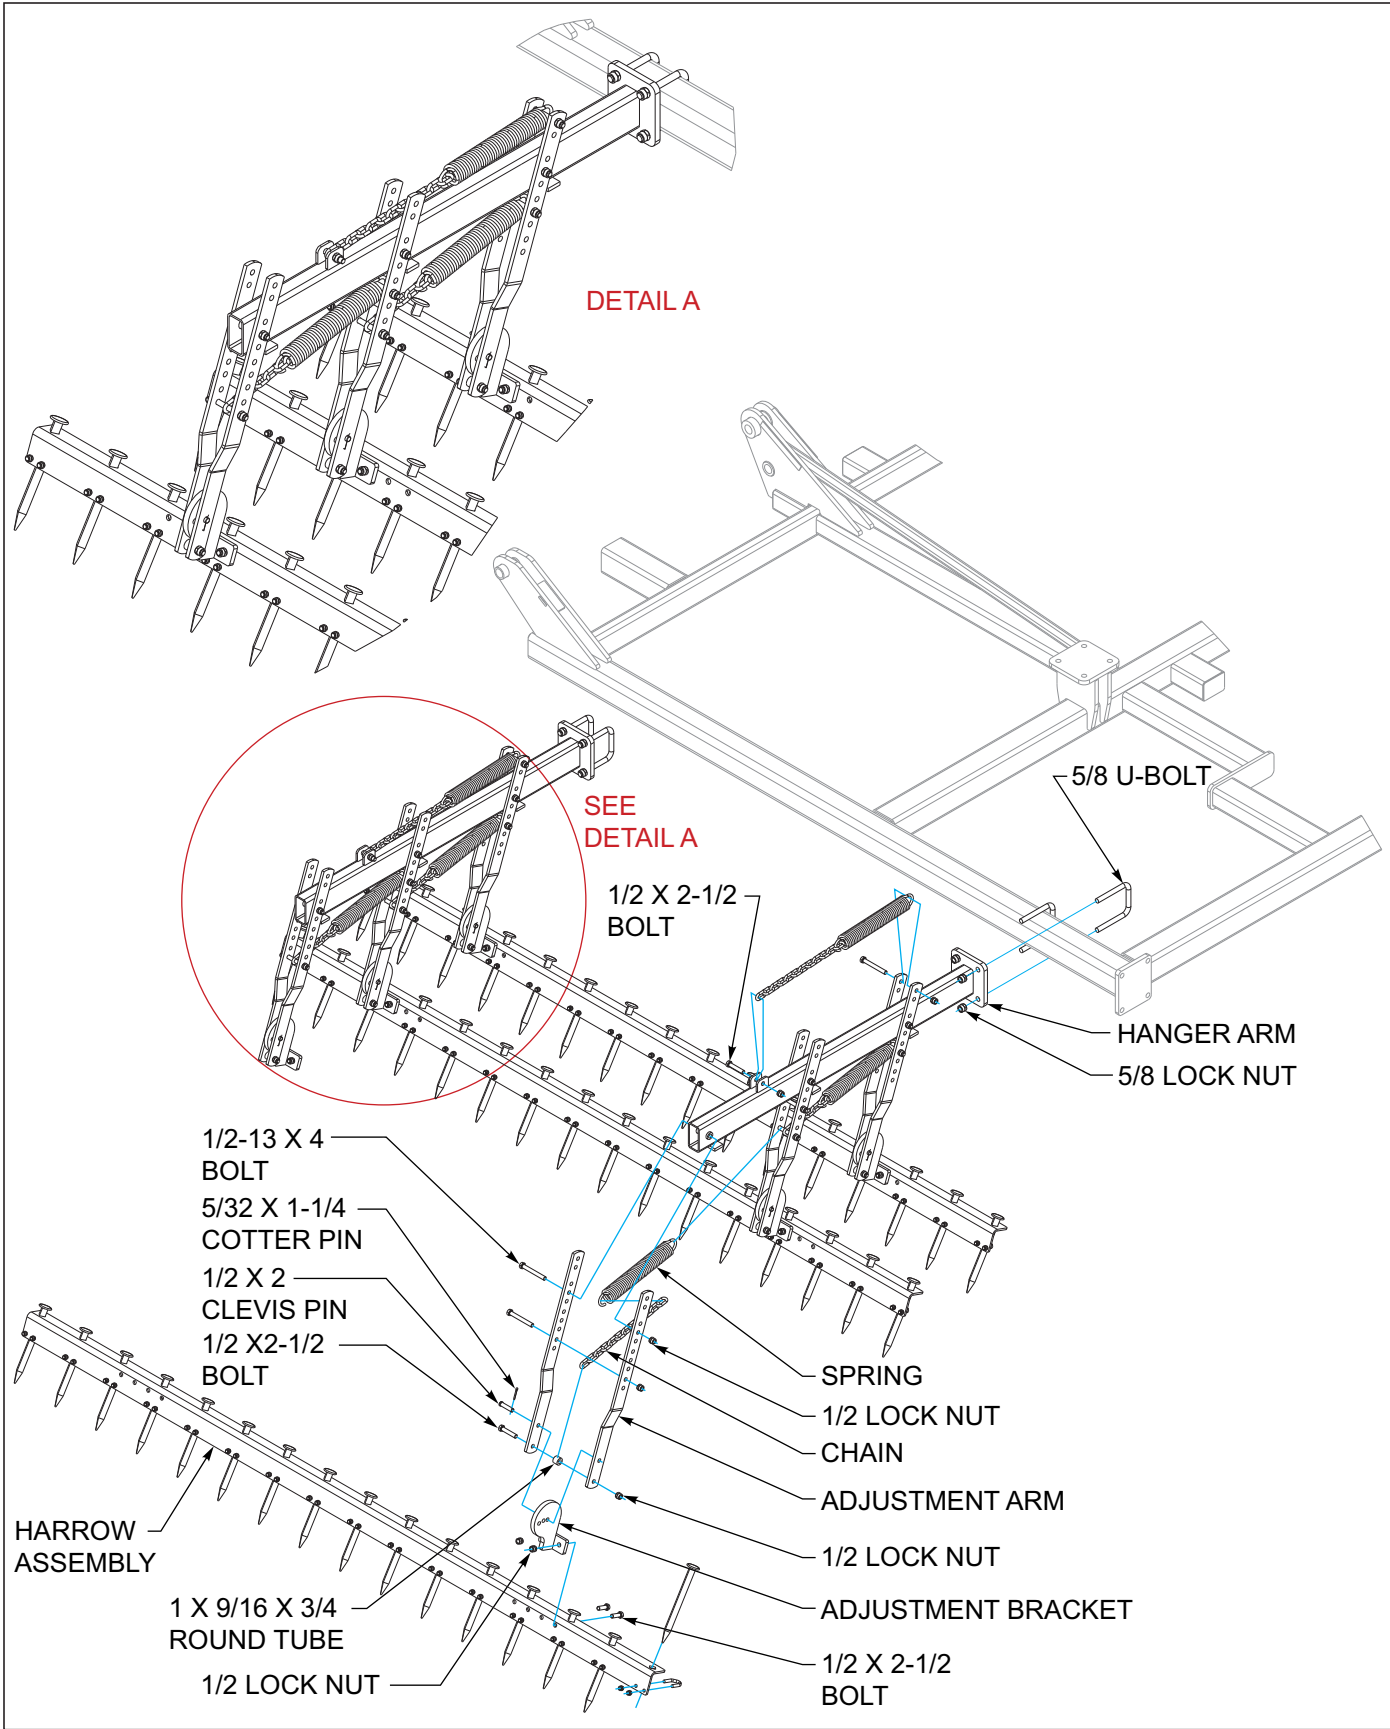

Figure 3-28: Harrow Assembly Installation
1. Install harrow hanger arms to rear of frame using u-bolts and 5/8 lock nuts See Figures 3-28 and See Figures 2-13 through 2-18 for location on frame.
4. Install harrow springs and chains as shown in See Figure 3-28 using 1/2 x 4 bolts and hex 1/2 lock nuts. The top spring is anchored in the 1st hole from the top. Front lower *spring* and rear lower spring are anchored in the 7th hole from the top of the harrow arm. Upper chain is anchored through the enlarged link with a 1/2x 2-1/2 bolt and 1/2 lock nut and hooked on the spring in the 8th link from the bolt. Lower chains are anchored in the second from bottom harrow arm hole and hooked on the spring in the 4th link from the screw.